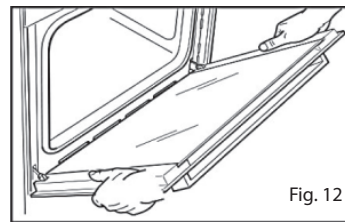

Fig. 12
- Hold the door as shown in Figure 12.